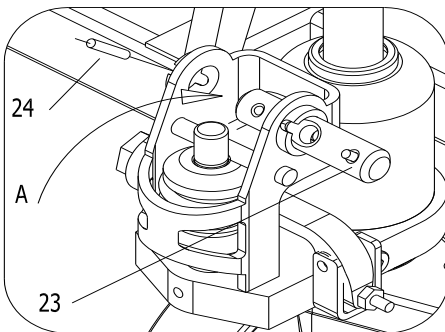

Fig. 1
- 3.1 Please refer to Fig.1, and pull out the pin shaft 23